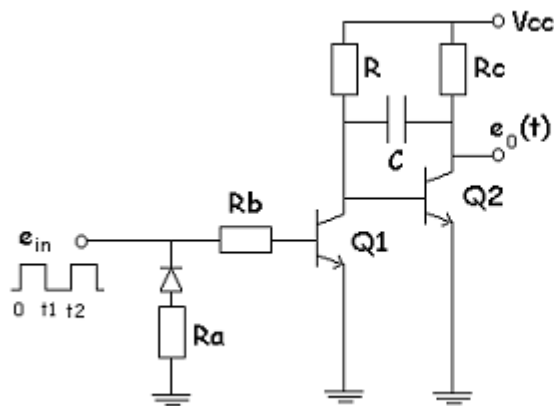
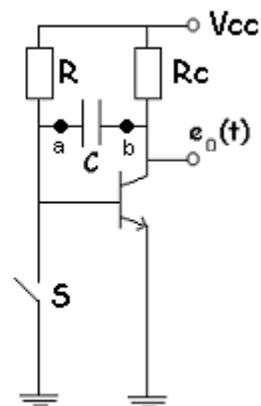
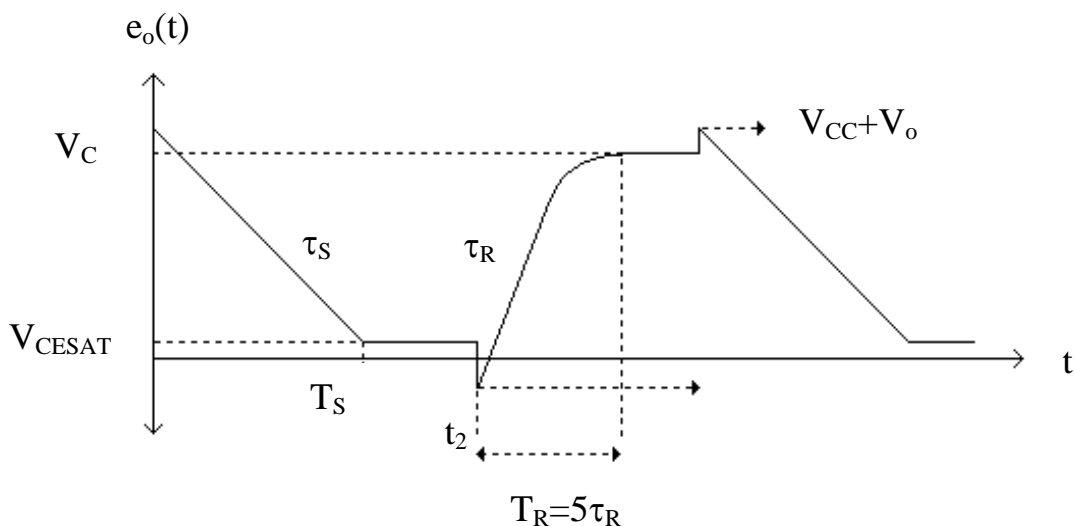

Figure 2.
Figure 3.
Figure 4.
A Miller sweep circuit is shown in figure 2. The transistor Q1 performs the function of a switch which opens and closes at predetermined intervals (See figure 3). When this switch is ON, Q1 is in SAT and Q2 is in cut-off and the voltage over the capacitor C is charged to V_{CC} through R_C . Here the time constant $\tau_R = R_C C$. When the switch is opened Q1 is in CUT-OFF and Q2 is ACTIVE and the time constant of the circuit is $\tau_S = R_{TH} C$. R_{TH} is the Thevenin equivalent resistance between the terminals a and b.
The voltage $e_o(t)$ produced by the circuit in figure 2 is shown in figure 4.
3.1. It is given that $R=R_C = 10\text{K}\Omega$, $R_b = 22\text{K}\Omega$, $R_a = 1\text{K}\Omega$, $C_C = 0.1\mu\text{F}$, $C = 0.01\mu\text{F}$ and $V_{CC} = 12\text{V}$. Plot $e_o(t)$ in Figure 3. when the switch S opens and closes at a rate of 500 Hz. (i.e. it is open for 1 msec. and closed for 1 msec. Assume input signal is a square wave input, $f = 500\text{ Hz}$ and $V_{pp} = 4\text{V}$).
3.5. Do Pspice simulations of figure 3 and 4, by using given components in step 3.1 and 3.4